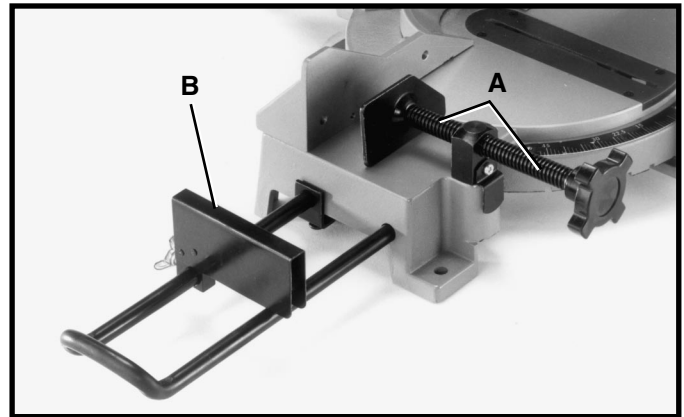

Fig. 10
2. **IMPORTANT:** The purpose of the work clamp (A) Fig. 10, is to clamp material against the fence. When the work clamp (A) is used in conjunction with the stock stop (B), the work clamp (A) and stock stop (B) should **ALWAYS** be used on the same side of the saw blade. This is important as it prevents the free end of the workpiece from binding between the blade and the stock stop (B).